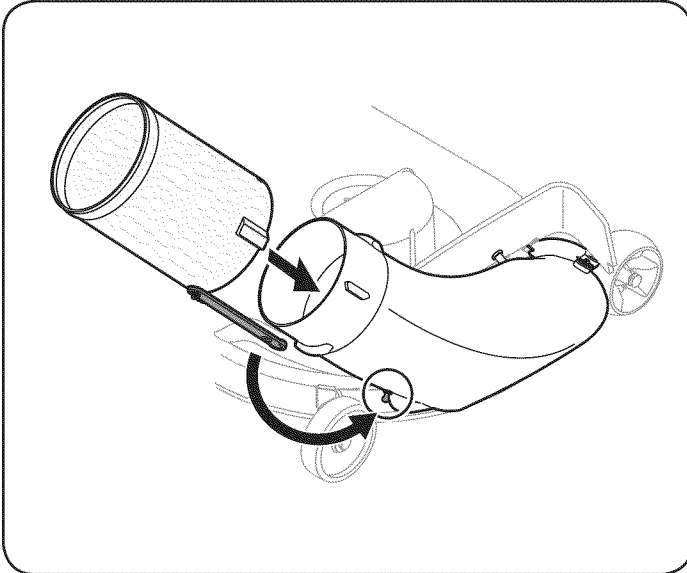

Figure 26
15. Install the chute tube extension onto the chute elbow by lining up the tabs and sliding the adapter over the chute elbow, as in Fig. 26. Secure the chute adapter by stretching the chute strap and hooking it onto the grass-catcher pin previously installed.